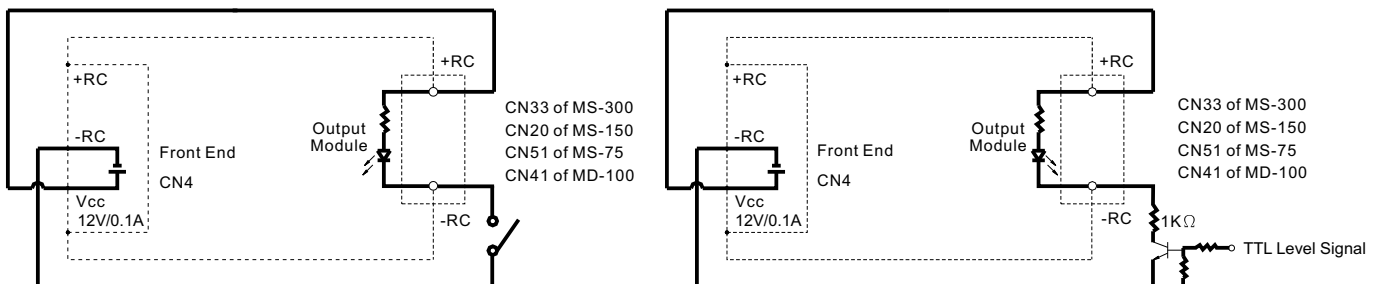

Figure 3-3 Connection for the remote ON/OFF control function of output modules
- ⊙ The auxiliary output on the power supply can be used as the external control source of the remote ON/OFF control function on each output module. Please refer to figure 3.3 for connecting methods.